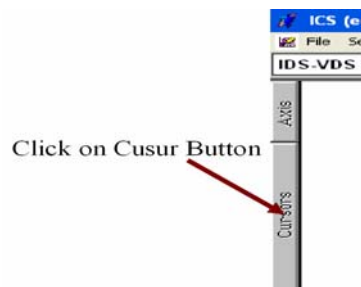
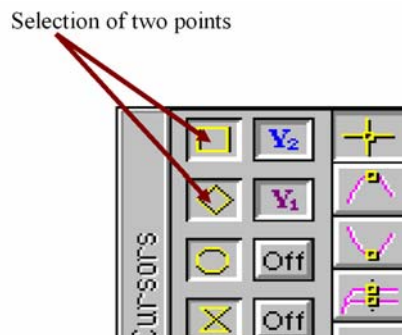

Figure 17: Cursors button location on the left side of ICS window
Figure 18: Cursors window
2. On the left side of the ICS window click on Cursors, shown in Figure 17 A window like Figure 18 should pop-up
3. Then select two cursors by choosing two shapes. Click the OFF buttons next to the shapes, making them Y2 and Y1, shown in Figure 18